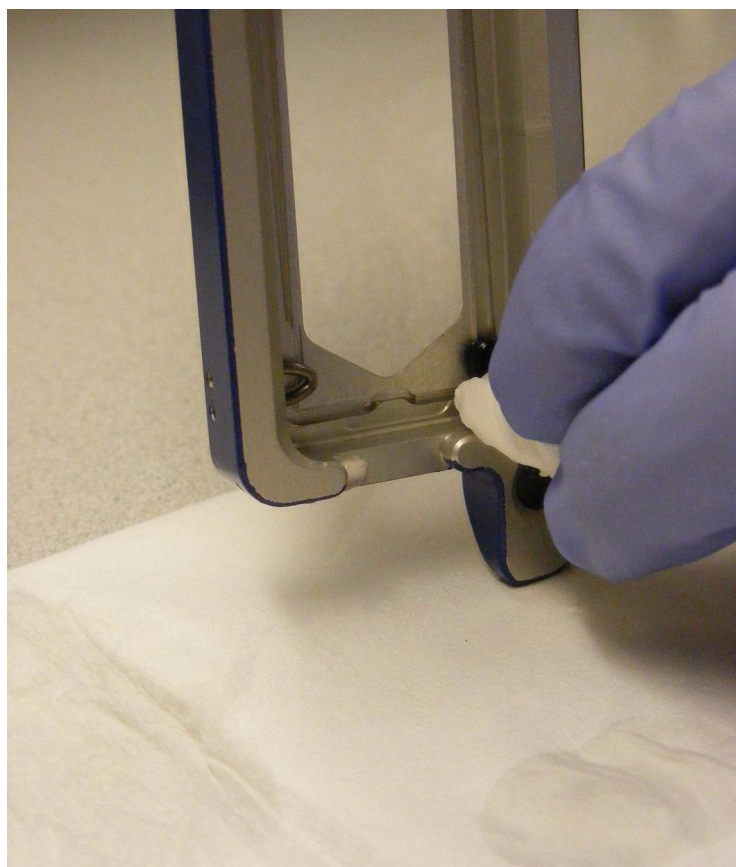

Figure 9 Carefully use a lab towel to soak up excess SOLiD™ XD Slide Prep Reagent, but do not touch the slide surface.
5. Lay a Kimwipes® wiper (or other lab paper towel) on the lab bench. Hold the slide in the carrier perpendicular to the lab bench, and decant the SOLiD™ XD Slide Prep Reagent off of the surface of the slide onto the Kimwipes® wiper or paper towel. If needed, carefully put the towel in the corner of the slide to soak up excess reagent (see Figure 9).